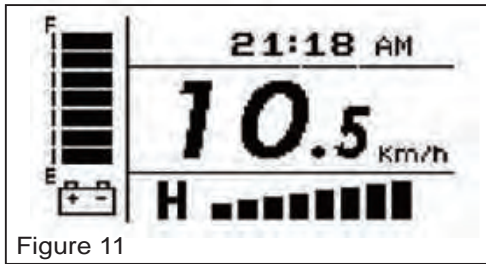

Figure 11
**[TIME] Time mode (Figure 11) :**